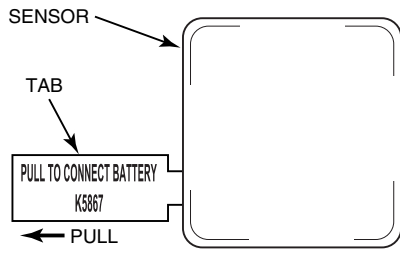

Figure 1
1. To cause the transmitter to transmit, remove the “PULL TO CONNECT BATTERY” tab (see Figure 1). (For additional transmissions, lightly tap on the base of the sensor with a screwdriver.)